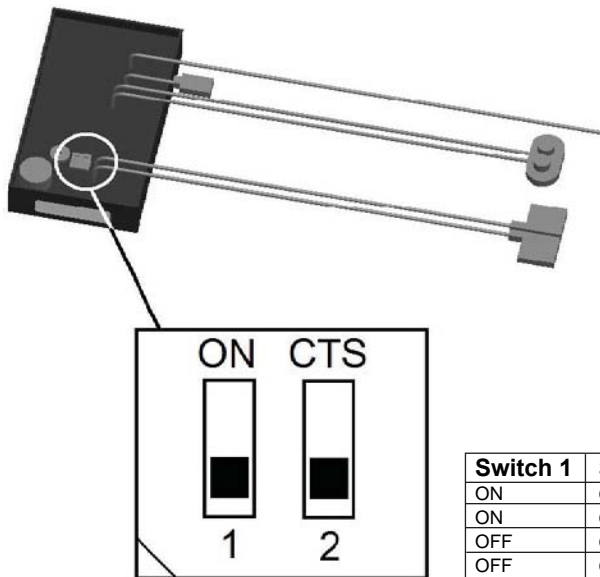

Fig. 7
2. Locate the sensitivity selector switch located on the driver board (Fig. 7).
3. Using a finger or small screwdriver, gently set the sensitivity level one step up or down from its current position. Use the sensitivity selection chart (Fig. 7) to ensure the correct setting is chosen.
NOTE: Fig. 7 depicts a driver board with the LOW Sensitivity setting selected.